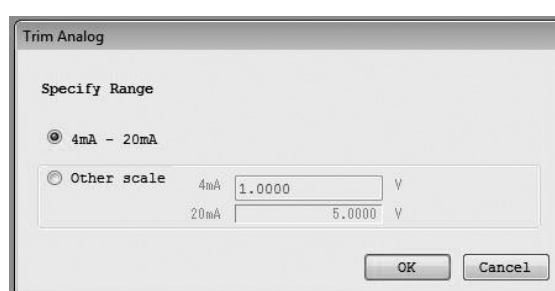
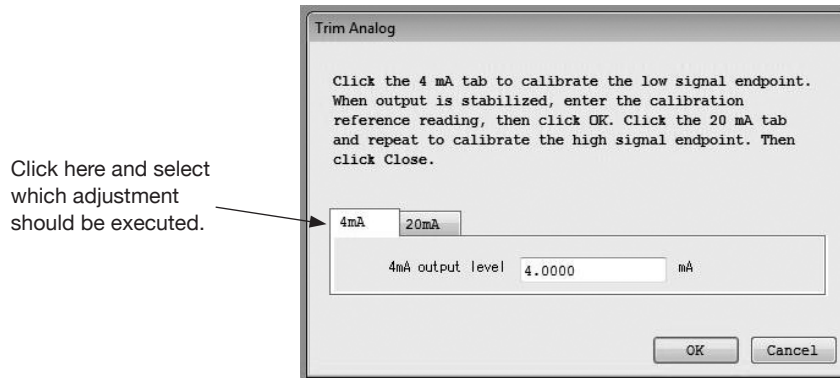
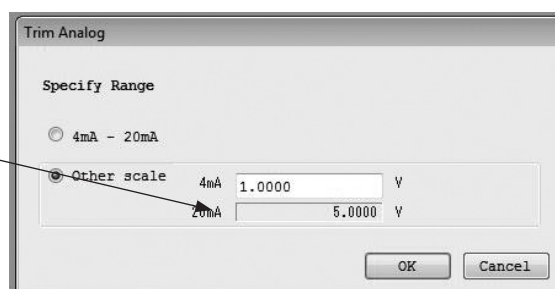

Fig. 3-69
Fig. 3-71
Fig. 3-73
- (1) Click "Diag/Service (T)" from the menu, and then click on "Trim Analog".
- (2) The following window (Fig. 3-69) will be displayed. Select the scale from "4mA - 20mA" or "Other scale" and click "OK".
- (4) If you select "4mA–20mA" on the window shown in Fig. 3-69 and click "OK" button, the window shown in Fig. 3-71 will be displayed. Select whether 4mA or 20mA should be used for the adjustment. Here, 4mA adjustment is executed and then 20mA adjustment is executed in order. Enter the current reading of the ammeter output and click "OK" button.
- (5) To execute 20mA adjustment, click 20mA side on the window shown in Fig. 3-71 and execute adjustment so that the connected ammeter indicator reads 20mA in the same manner as 4mA adjustment.
- (7) To stop the adjustment during the process, click "Cancel" button and follow the following message.
- (8) When you select "Other scale" on the window shown in Fig. 3-69, the input of other scale will be enabled as shown in Fig. 3-73. If you enter an analog value (here, 1V) equivalent to 4mA output in the 4mA entry field, the corresponding value will be automatically entered in the 20mA entry field.